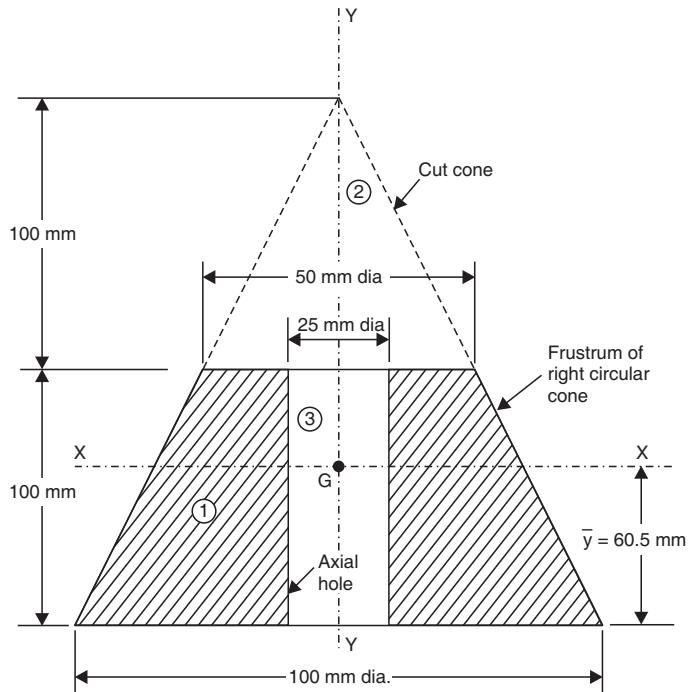

Fig. 7.42
**Sol.** Refer to Fig. 7.42. The frustum of cone can be obtained by removing cone (2) of base diameter 50 mm and height 100 mm from another cone (1) of base diameter 100 mm and height 200 mm. The given solid will be obtained by removing a cylinder of (3) of diameter 25 mm and height 100 mm from this frustum.